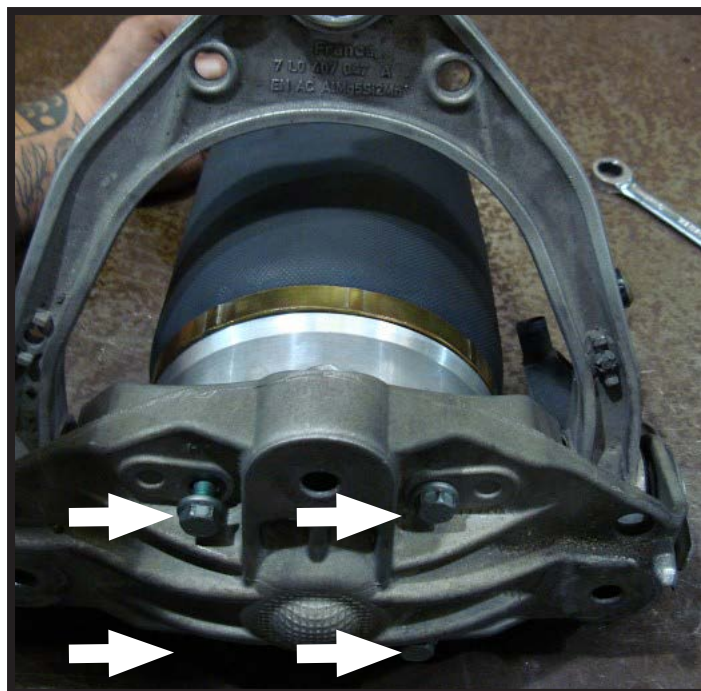

FIGURE 20-8
9. INSTALL THE NEW FOUR BOLTS SECURING THE AIR SPRING TO THE UPPER MOUNT. (FIGURE 20-8)